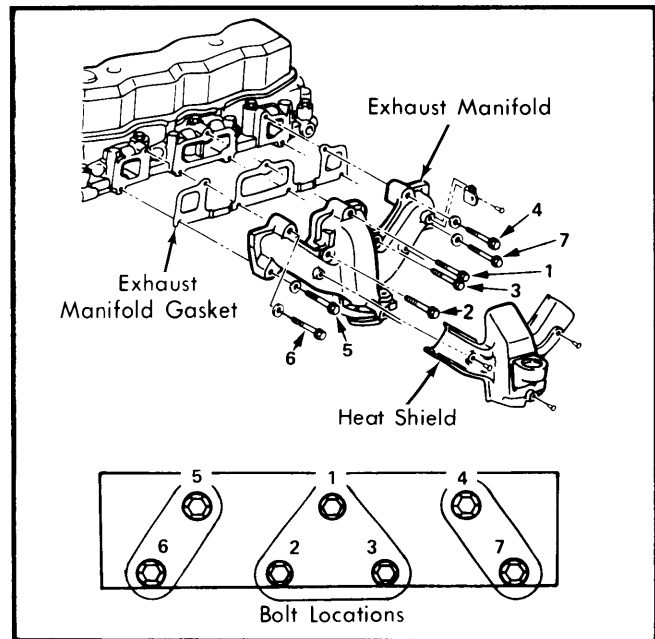

Fig. 2 Exhaust Manifold Bolt Torque Sequence
2) Torque manifold-to-cylinder head bolts using torque sequence shown in Fig. 2. Reverse removal procedure to complete installation.